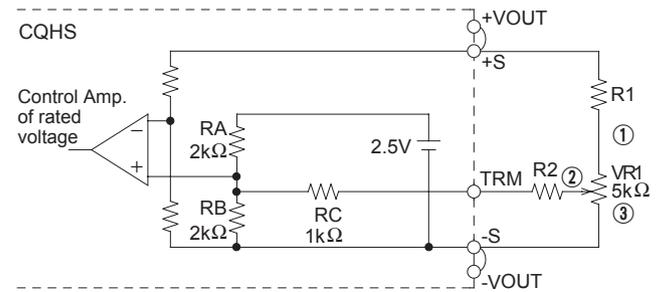

Fig. 3.4 Output voltage control circuit
(1) Output voltage adjusting
- By connecting the external potentiometer (VR1) and resistors (R1,R2), output voltage becomes adjustable, as shown in Fig.3.4, recommended external parts are shown in Table 3.2.